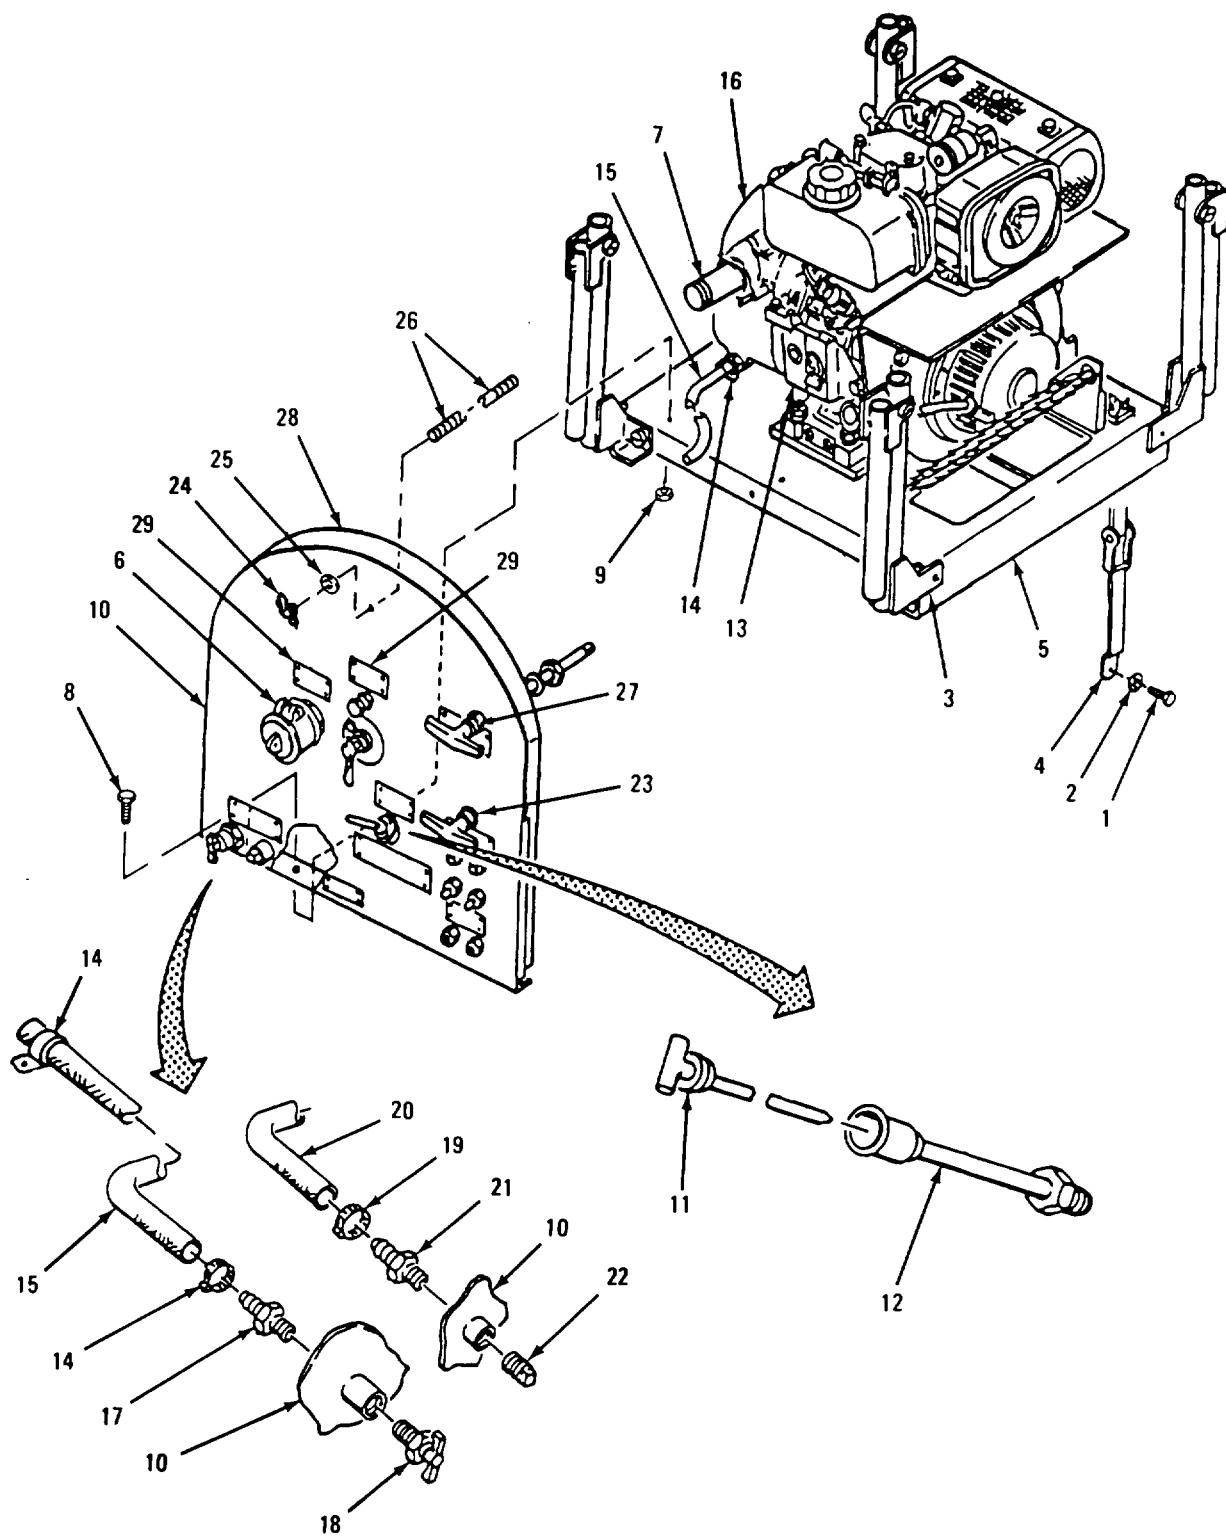
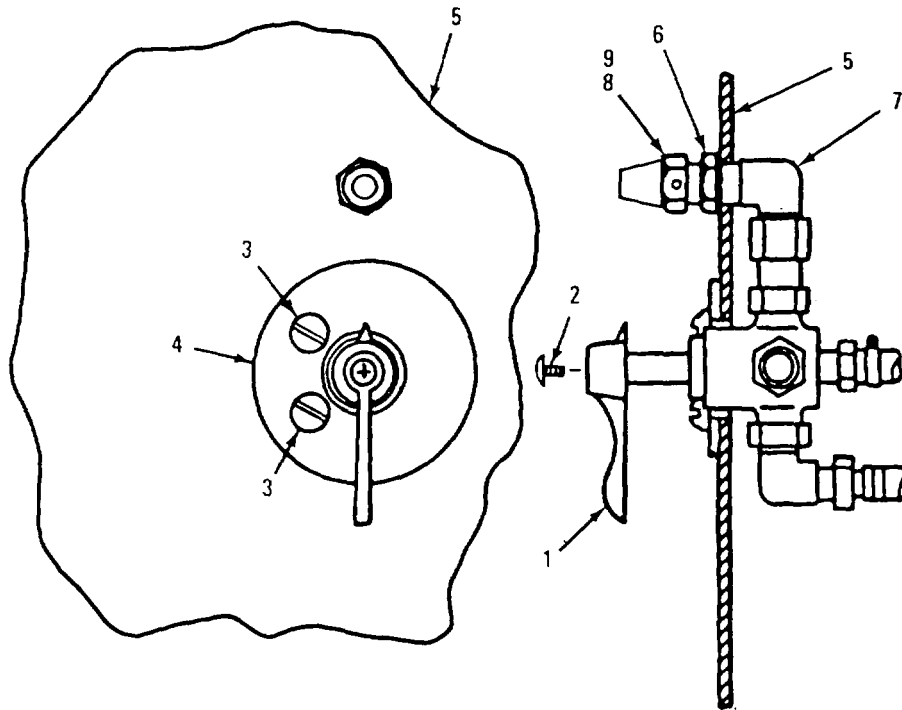

Figure 4-11. Sound Enclosure Front Panel Assembly
Figure 4-12. Fuel Selection Valve
a. Front Panel and Mechanical Controls Removal. (Refer to Figure 4-11)
- (1) Remove four screws (1), four washers (2), two post/handle assemblies (3), and ratchet strap (4) from frame (5).
- (2) Remove inlet (suction) hose adapter (6) from threaded pipe nipple (7).
- (3) Remove the three bolts (8), and three nuts (9) securing the sound enclosure front panel assembly (10) to the frame (5).
- (4) Remove oil dipstick (11) and unscrew oil filler tube (12) from engine crankcase (13).
- (5) Loosen rear clamp (14) and disconnect volute drain hose (15) from volute (16) and fitting (17).
- (6) Remove cock drain (18) from sound enclosure front panel assembly (10).
- (7) Refer to Figure 4-12. Remove fuel selection valve handle (1) and screw (2).
- (8) Remove two screws (3) securing fuel selection valve and information plate (4) from sound enclosure front panel assembly (5).
- (9) Refer to Figure 4-11. Loosen clamp (19) and disconnect oil drain hose (20) from inside of panel fitting (21).
- (10) Remove pipe plug (22) from sound enclosure front panel assembly (10).
- (11) Remove two wing nuts (24) and two washers (25) from threaded rod (26). Remove threaded rod (26).
- (12) Pull recoil starter rope T-handle (23) until 2 feet of rope is exposed.
- (18) Loosen cable set screw (3), then remove cable (4) end from throttle control (2).
- (19) On the inside of the sound enclosure front panel assembly (1), remove nut (5) and washer (6) from the threaded portion of the throttle cable mounting (7).
- (20) Refer to Figure 4-11. From the outside of the sound enclosure front panel assembly, pull throttle cable (27) out of the sound enclosure front panel assembly (10).
b. Front Panel Inspection. (Refer to Figure 4-11)
- (1) Inspect the riveted information plates on the sound enclosure front panel assembly (10). Damaged information plates must be removed and replaced. If any rivets are missing from undamaged information plates, the missing rivets must be replaced.
- (2) Inspect acoustical foam (28) within the sound enclosure front panel assembly (10). If acoustical foam (28) blocks air flow or is torn, scarred, or shows signs of contacting the hot engine surface, it must be replaced.
j. Front Panel and Mechanical Controls Installation. (Refer to Figure 4-11.)
- (1) Position the sound enclosure front panel assembly (10) on frame (5).
- (2) From the outside of the sound enclosure front panel assembly (10), feed throttle cable (27) into the hole in the sound enclosure front panel (10).
(Refer to Figure 4-11)
(Refer to Figure 4-12)